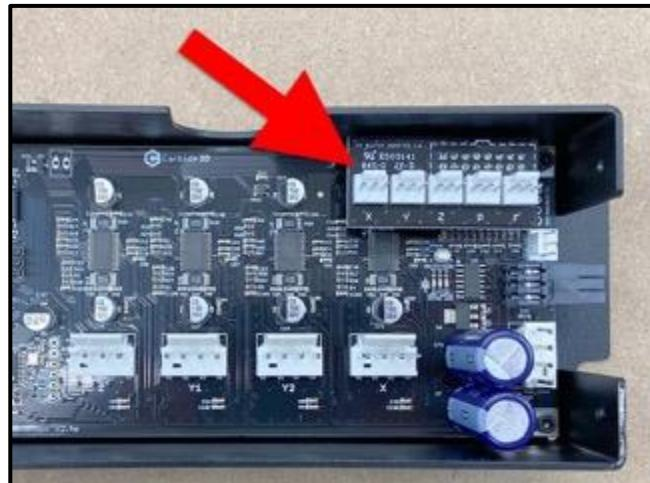

Figure 8-5
4. Connect the PCB riser board to the set of open pins in the **TOP-RIGHT** corner of the controller board. See *Figure 8-5*